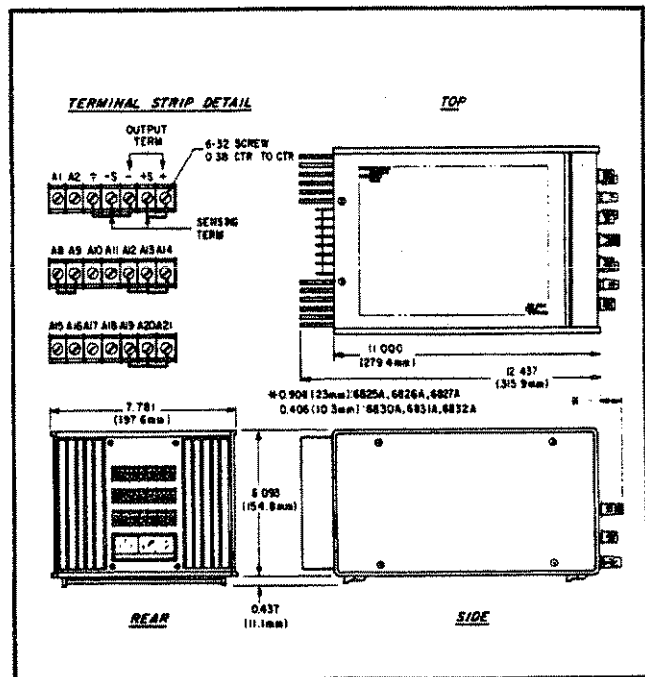

Figure 2-1. Outline Diagram
<p>Input Power: 104-127/208-254Vac (switchable), 48-63Hz, 1.0A, 150W</p> <p>Meters: Individual voltage and current meters. DC accuracy is 3% of full scale. AC accuracy is 5% of full scale with sinusoidal, 100Hz input.</p> <p>Meter Ranges (DC): ±2.4V, ±24V/±0.24A, ±2.4A</p> <p>Meter Ranges (AC): 1.6V (uncal), 16V rms/0.16A rms, 1.6A rms</p> <p>Temperature Ratings: Operating: 0 to 55°C. Storage: -40 to +75°C.</p> <p>Cooling: Convection cooling is employed. The supplies have no moving parts.</p> <p>Dimensions: See outline diagram, Figure 2-1.</p> <p>Weight: 18 lbs. (8.2 kg.) net, 21 lbs. (9.5 kg.) shipping.</p>	<p>Source Effect (Line Regulation) Continued: Voltage (X1 Range): .01% + .2mV Voltage (X4 Range): .01% + 2mV Current: .01% + 250μA</p> <p>PARD (Ripple and Noise): Rms/p-p (20Hz to 20MHz) at any line voltage and under any load condition within rating. Voltage (X1 Range): 1.5mV rms/4mV p-p Voltage (X4 Range): 5mV rms/15mV p-p Current: 3mA rms/10mA p-p</p> <p>Temperature Coefficient: Output change per degree Centigrade change in ambient following 30 minutes warm-up. Voltage (X1 Range): .01% + .35mV Voltage (X4 Range): .01% + 1.5mV Current: .02% + 100μA</p> <p>Drift (Stability): Change in output (dc to 20Hz) over 8 hour interval under constant line, load, and ambient following 30 minutes warm-up. Voltage (X1 Range): .03% + 1mV (Pot wiper jump effect may add 5mV) Voltage (X4 Range): .03% + 5mV (Pot wiper jump effect may add 50mV) Current: .1% + 200μA (Pot wiper jump effect may add 1.5mA)</p>
2-14 Figure 2-1 illustrates the outline shape and dimensions of the BPS/A.